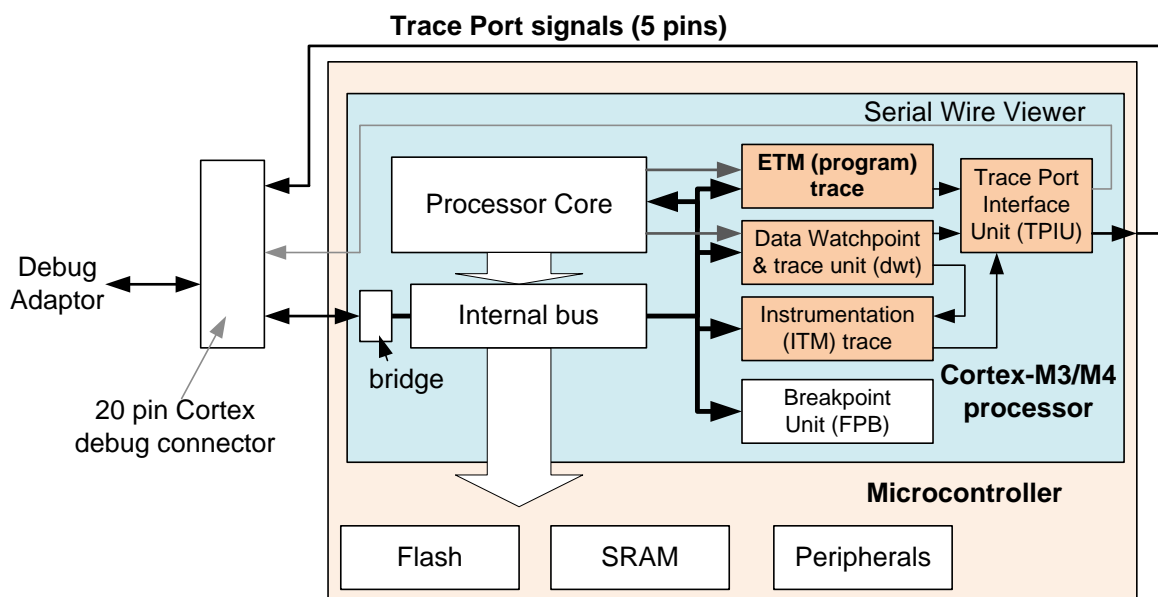

Figure 11: Trace port provides required trace bandwidth for instruction trace plus other trace
- Trace port – multiple data pin plus clock signal. This provides much higher trace bandwidth than SWV and can support all trace type in SWV plus instruction trace. On Cortex-M3/M4/M7 or Cortex-M33 devices, the trace port usually has four data pins and one clock pin. (Figure 11)